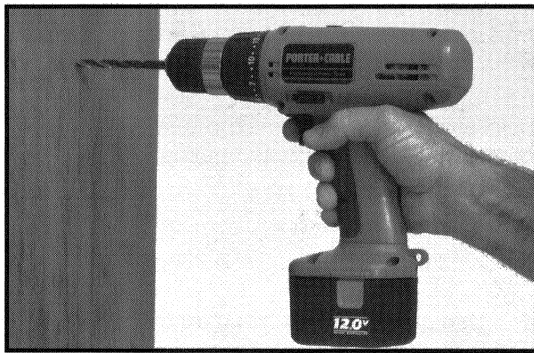

Fig. 7
**WARNING:** The front end of the Driver/Drill may be made live if the tool drills into live wiring in the wall. TO PREVENT ACCIDENTAL ELECTRICAL SHOCK, DRIVER/DRILL MUST BE HELD AS SHOWN IN FIG. 7.